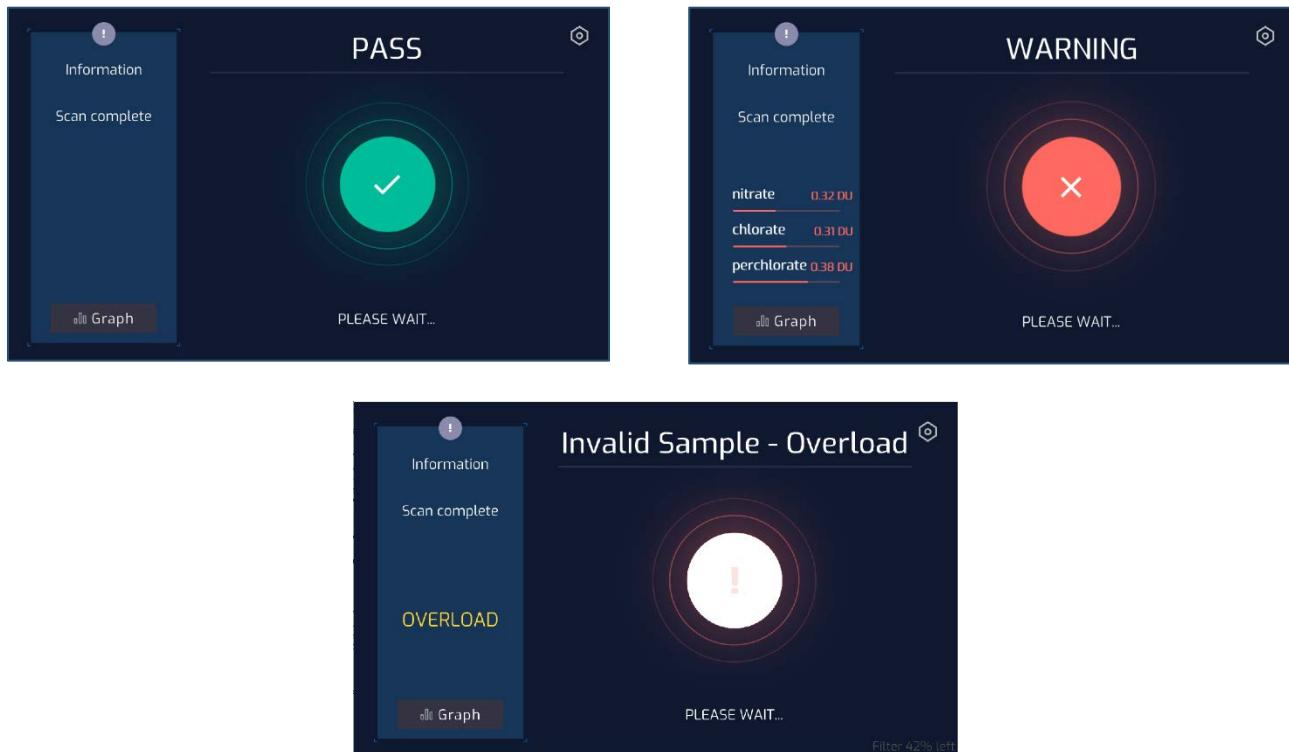

Figure 19: PASS, WARNING and OVERLOAD Screens (Wait)
- After the sample has been tested a results screen will be displayed indicating a Pass (green indicator), a Warning (red indicator), or an Invalid Sample - Overload (white indicator) as illustrated in Figure 19. The Swab should then be removed and disposed.